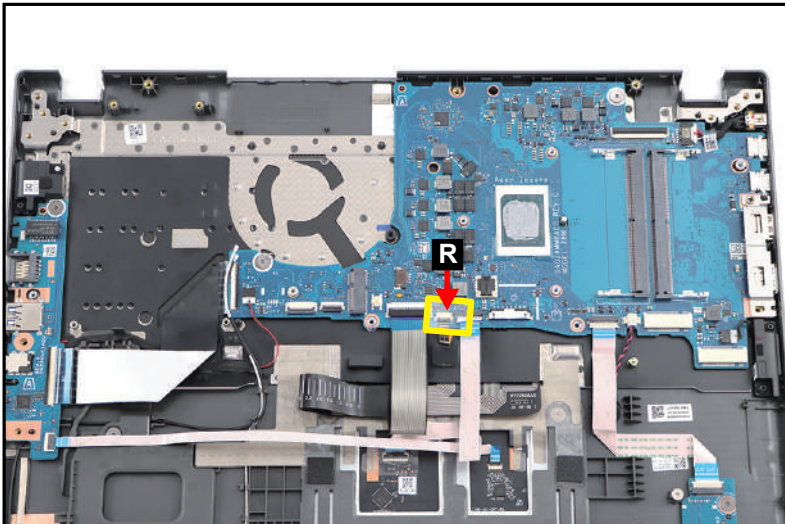

Figure 3-112. Replacing the Mainboard
16. Attach the mylar (R) to secure the keyboard backlight FPC connection (Figure 3-112).